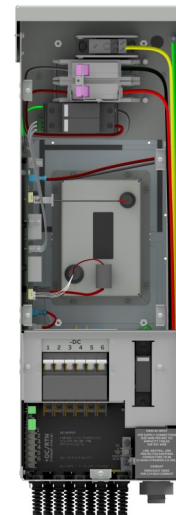

Figure 7 Chamber wiring
3. After the dead front cover is removed, open the necessary insulators. Wiring chamber will look like as shown in figure 7. The AC wiring comes in at the bottom and is routed through the channel on the right up to the AC wiring compartment. The DC wiring is connected in the DC wiring compartment and is routed out the bottom through the strain reliefs